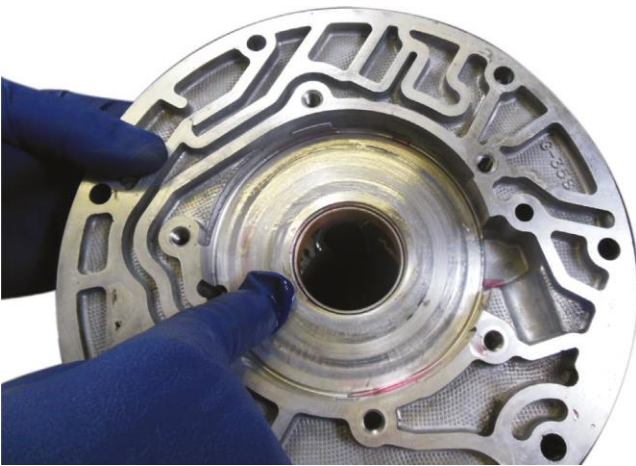

Figure 12. Inspect the pump housing.
- Body and cover where the gears move. Figure 12.